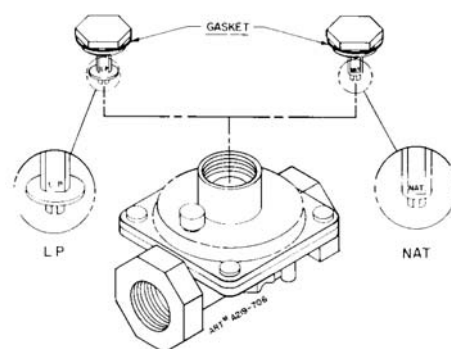

FIGURE 12
3. Remove cap and forcibly snap out plastic plunger from bottom of cap. Turn plunger over and forcibly snap back in original location (figure 12).